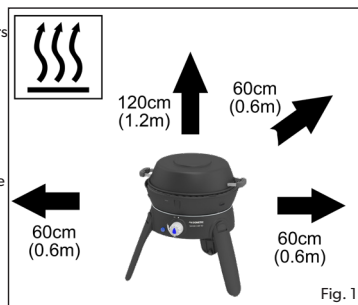

Fig. 1
- This appliance must be kept away from flammable materials during use. Minimum safe distances are: Above the appliance 1.2m. At the rear and sides 600mm (See Fig. 1).